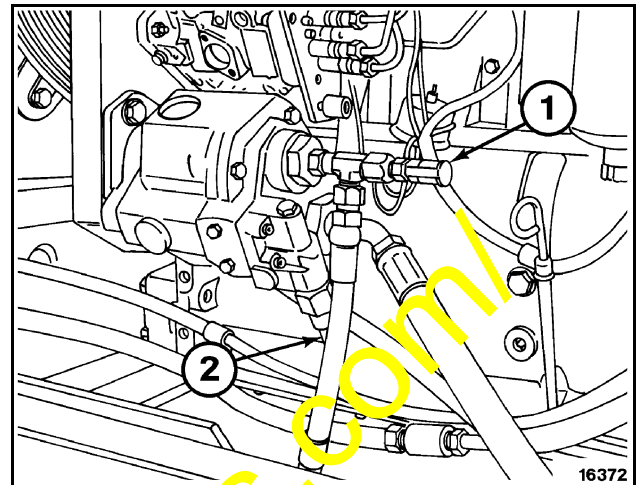

Figure 1
3. Connect a calibrated 2000 - 3000 PSI (140.6 - 210.9 kg/cm²) gauge to pressure test port (1, Figure 1) on steering and brake pump.
- A. Pressure gauge should read 1650 PSI (116.0 kg/cm²). If pressure is less than 1600 PSI (112.5 kg/cm²), readjust pump relief valve (2, Figure 1) as outlined in Shop Manual.
- A. Pressure gauge should read 1650 PSI (112.0 kg/cm²). If pressure is less than 1600 PSI (112.5 kg/cm²), readjust pump relief valve (2, Figure 1) as outlined in Shop Manual.